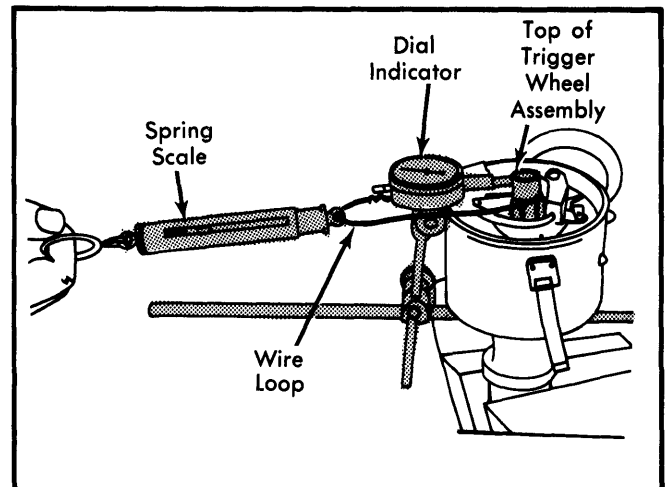

Fig. 2 Checking Distributor Shaft Bushing Wear
- 1) To check for bushing wear, secure distributor and remove cap, rotor and shield. Attach a dial indicator as shown in Fig. 2.